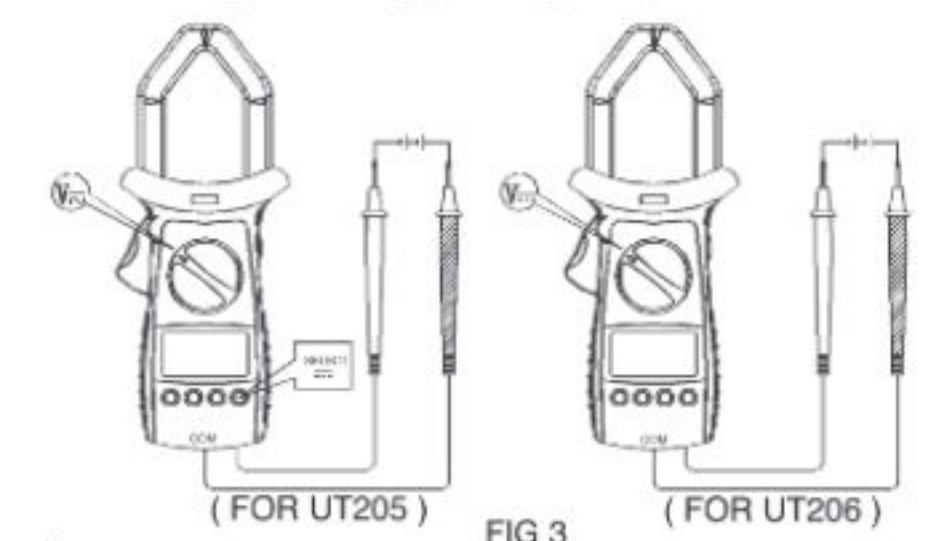

FIG 3
A. Measuring DC Voltage(See Figure 3)